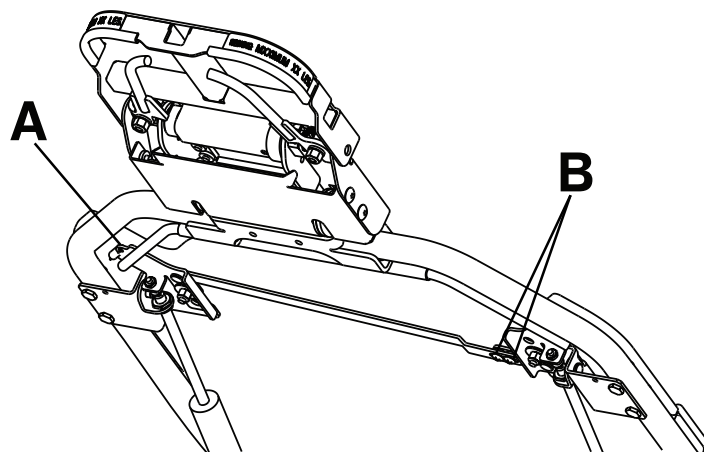

Figure 14 – 5051 Pneumatic Fowler backrest release handle adjustment
2. Using a #2 Phillips screwdriver, loosen the two screws (B) on the handle linkage. Release the handle tension spring (A) on the patient left side (Figure 14).